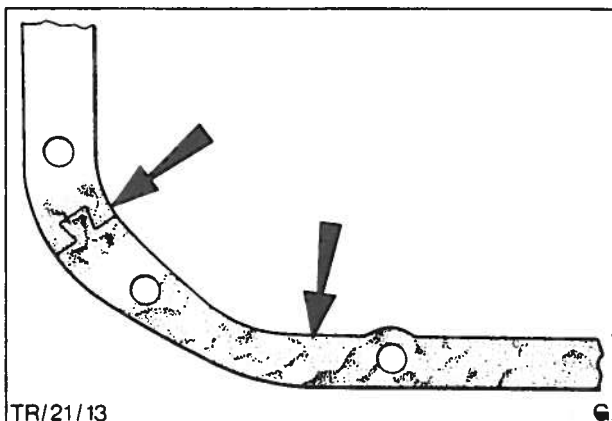

Fig. 42 Sump gasket
31. With the engine inverted fit the oil pick-up pipe, complete with new flange gasket. On later engines, fit a new 'O' ring to the recess in the engine block – no flange gasket is used. Position the four sections of the sump gasket on the block, Fig. 42, ensuring that the dovetail joints are correctly located. To assist in positioning the gasket, small patches of sealer may be applied along the block jointing faces.